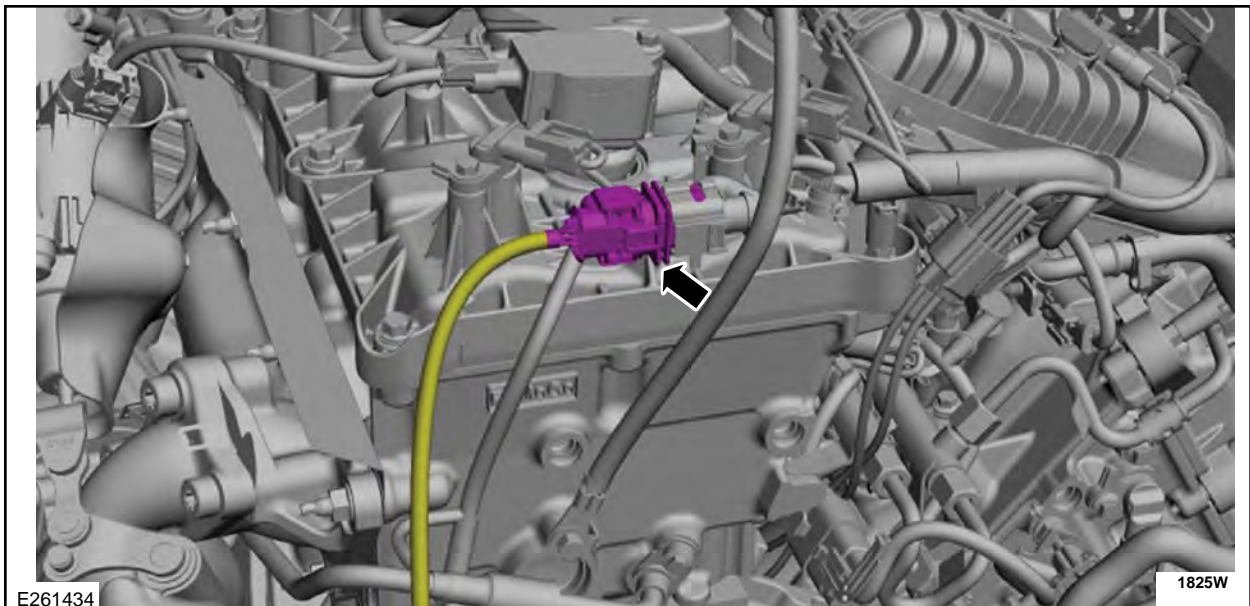

FIGURE 13
29. Disconnect the HO2S electrical connector. See Figure 13.